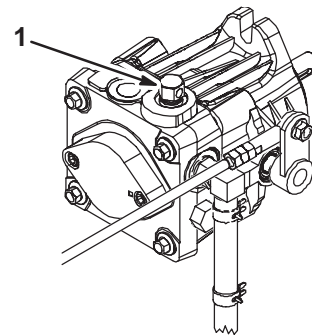

Figure 24
2. Rotate the by-pass valves counterclockwise 1 turn to push. This allows hydraulic fluid to by-pass the pump enabling the wheels to turn (Fig. 24).
1. Rotate the by-pass valves clockwise 1 turn to operate machine (Fig. 24).